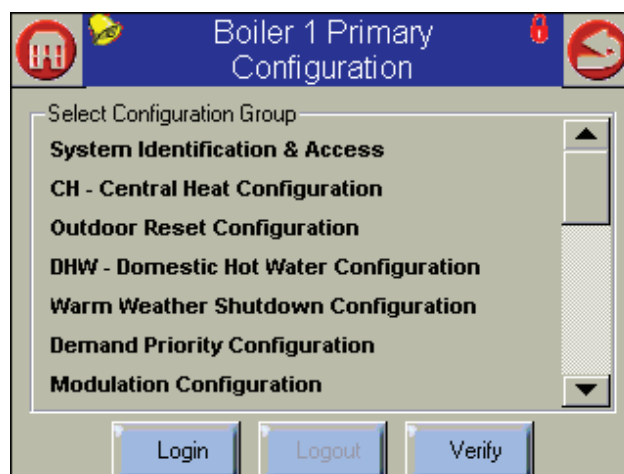

Fig. 63 – Configuration Screen
- To disable the Master function on this controller, press the Configure button. Figure 63 shows the Configuration screen.